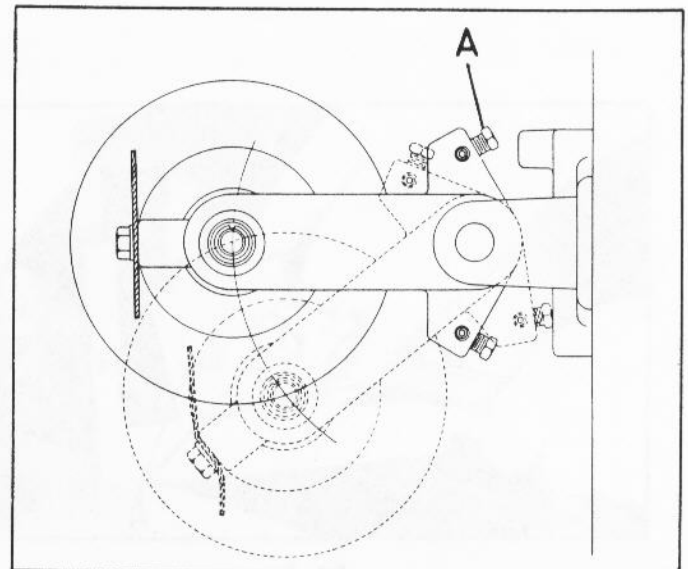

Fig. 4.
For inexperienced student operators, it is sometimes desirable to adjust the lathe to other than factory-set maximum speed. This is done by adjusting the square head screw (A) Fig. 4.